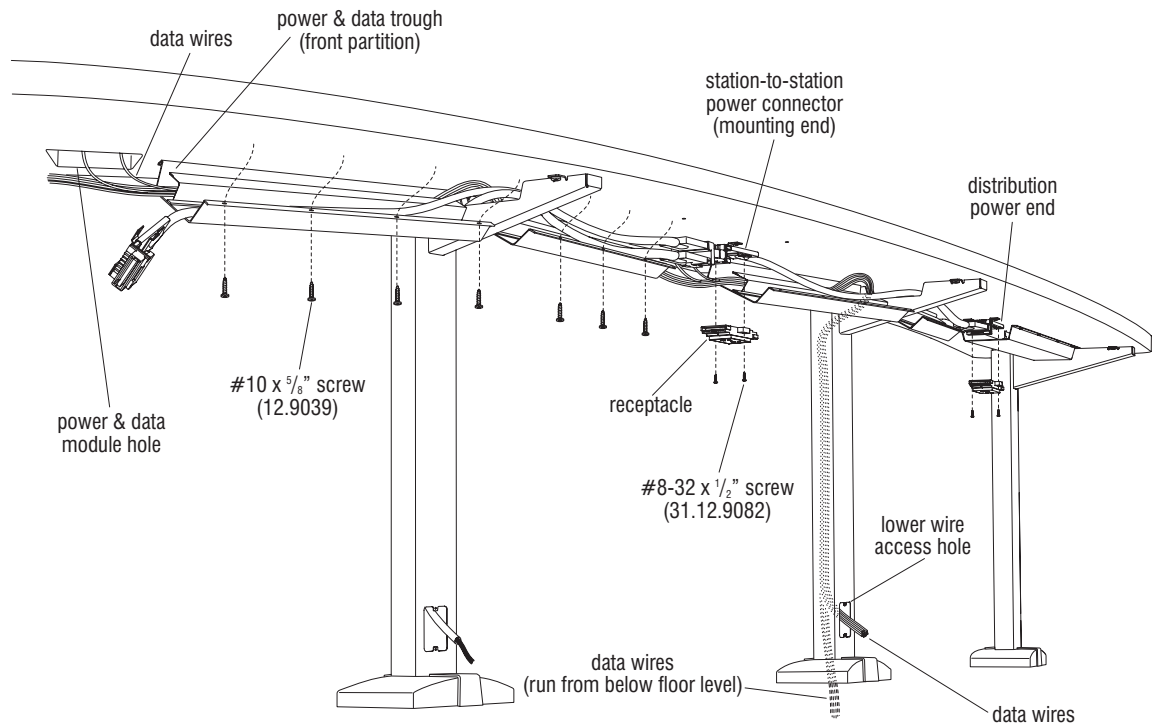

Figure 10
(mounting end), the **right power infeed** (mounting end), and/or the distribution power end with two #8-32 x 1/2" screws provided (Figure 10). Torque screws to 20 in/lbs.
19. The data wiring (not provided) may be installed at this time. Referring to the space-planning layout, locate the data wire infeed locations. If data wiring connections are to be made below floor level, they must be made before mounting the column to the floor. Run the data wires through the column upright and out the bottom of the column. Make data line connections. Data wiring that is to be run through a lower wire access hole may now be connected to the source similar to the process described in step 23. Under the table top, run the data wires through the smaller, front partition of the power & data trough. Properly routed, these data lines will be separated from the line voltage flexible conduit by the trough divider. Push the ends of the data lines up through the power & data grommet holes in the table top. After all wiring has been installed, close the wire management trough and secure it to the worktable top with #10 x 5/8" screws provided. Torque screws to 25 in/lbs. All screw holes in the trough must be utilized (Figure 10).